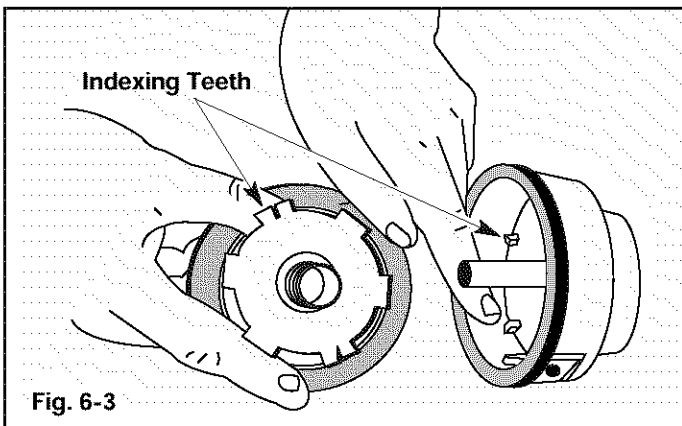

Fig. 6-3
5. Check the indexing teeth on the inner reel and outer spool for wear. If necessary, remove burrs or replace the reel and spool (Fig. 6-3).